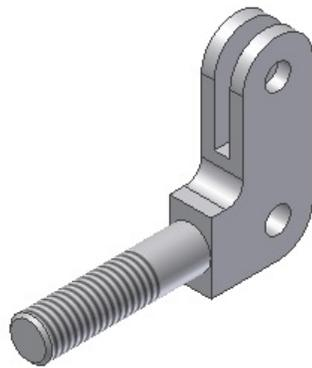
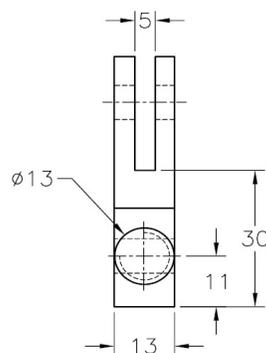
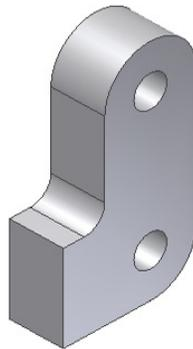
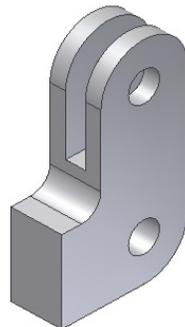

Figure 8-147a Solid model of the Joint
Figure 8-147b Left side view of the model
Figure 8-148 Base feature for the model
Figure 8-149 Model after creating the cut feature
In this tutorial, you will create the model of the Joint shown in Figure 8-147a. Its dimensions are shown in Figures 8-147b and 8-147c. The threads to be created are ANSI Metric M Profile of size 14 and designation M14x2. The class of the threads is 6g. Make sure the threads are right-handed. **(Expected time: 30 min)**
- a. Create the base feature of the model on the YZ plane, refer to Figure 8-148.
- b. Create the cut feature, refer to Figure 8-149.
1. Create the base feature of the model on the YZ plane, as shown in Figure 8-148. For dimensions of the base feature, refer to Figures 8-147b and 8-147c.
1. Create the cut feature by defining a sketch plane on the right face of the base feature, as shown in Figure 8-149. For dimensions of the cut feature, refer to Figure 8-147b.
refer to Figures 8-147b and 8-147c.